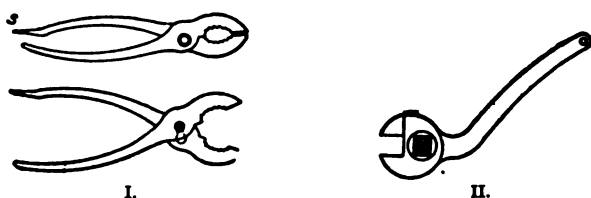

FIG. 121.—DOUBLE-GRIP PLIERS (I) AND SMALL SCREW-SPANNER OR WRENCH (II).
a canvas kit. First among these come the (1) *pliers*, which should be of the double-grip variety, with screw-driver end. (See Fig. 121.) You will be wanting these in innumerable little emergencies, such as unscrewing tank-caps, pulling out and putting in split-pins, straightening and cutting wire,